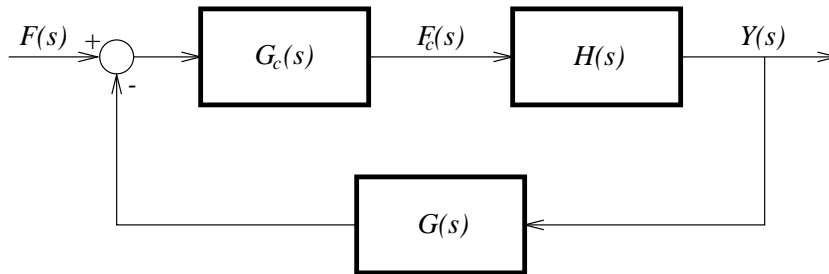

FIGURE 12.24: Feedback system controlled by a dynamic controller
**Part 3.** Plot Bode diagrams with the value for the static gain  $K$  obtained in Part 2. Use `bode(K*num, den)`; and `margin(K*num, den)` to find the phase and gain stability margins, and observe that the phase margin is quite pure. Design a PD controller of the form  $G_c(s) = G_{PD}(s) = 1 + K_d s$  to improve the phase stability margin such that the controlled system has a phase stability margin close to  $50^\circ$  (see Figure 12.24 and note that unity feedback is used by the design requirement). Find the closed-loop step response of the system controlled by the PD controller, and compare it to the closed-loop step response of the uncontrolled system whose static gain  $K$  is found in Part 2.